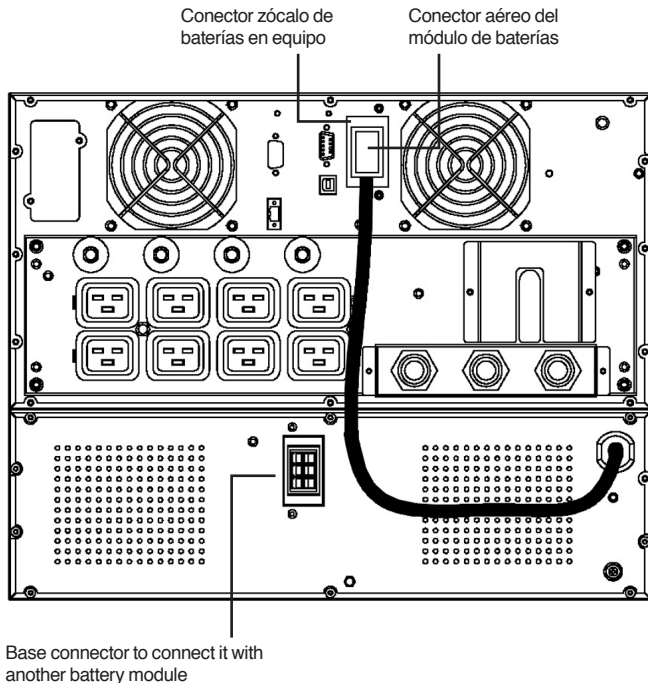

Fig. 11. Battery module connection for 8 and 10 kVA equipments.
8 to 10 kVA models, the connection with battery modules for extended back up time, it is done through a connector located in the rear side of the equipment (see figure 11).
- For 8 and 10 kVA UPSs with the battery module, proceed as follows, but reading section 5.3.4 previously (see figure 11):
- Regarding the connections of the UPS with the battery module in models of 8 and 10 kVA, make the following steps, but reading section 5.3.4 previously (see figure 11):